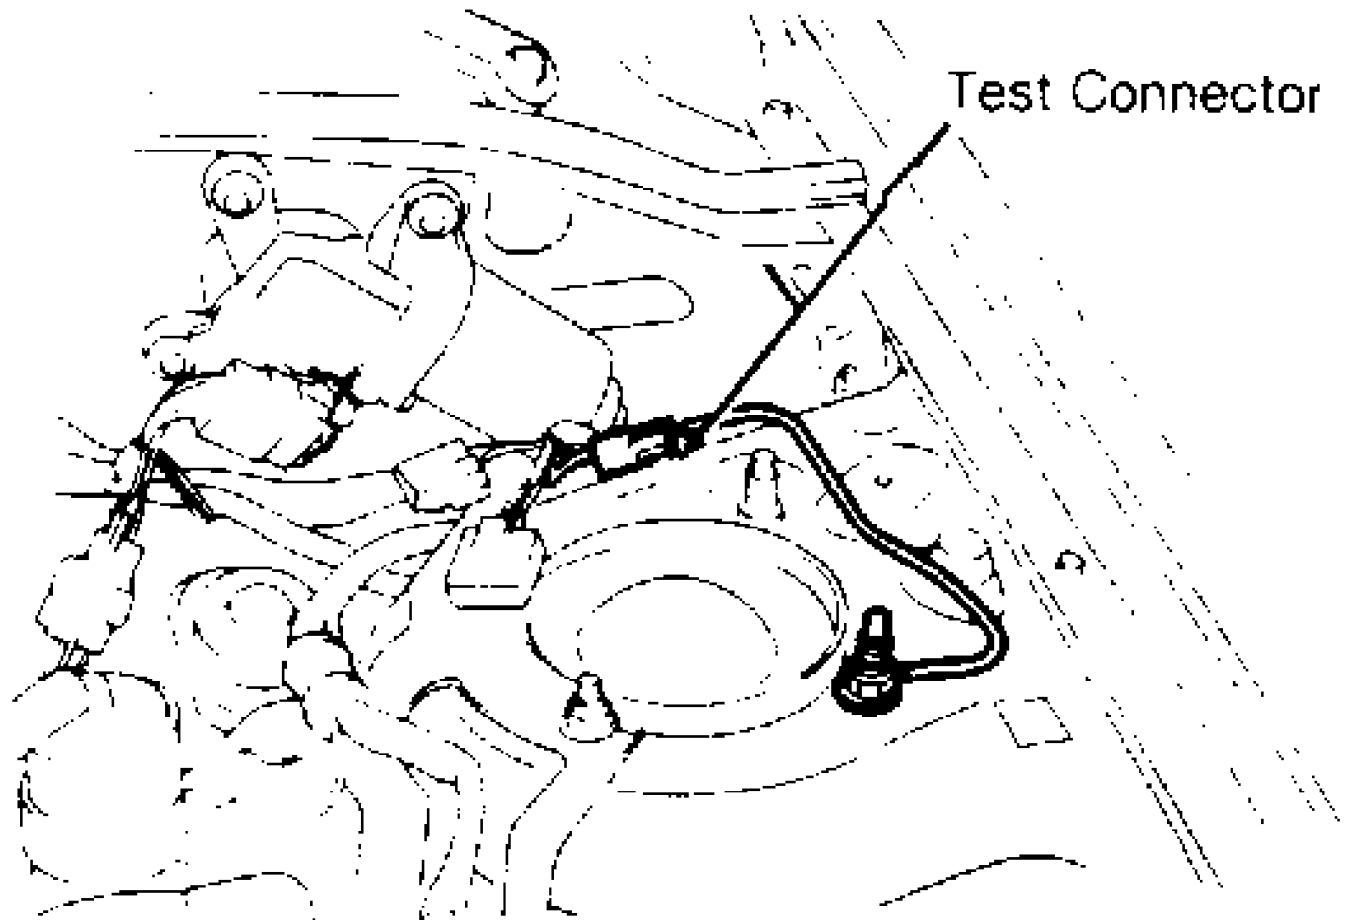

Fig. 8: MX-6 & 626 Locating Green Test Connector
1) On non-turbo vehicles, disconnect and plug distributor vacuum advance hose. On turbo vehicles, connect jumper wire between ground and Green test connector near left shock tower. See Fig. 8.